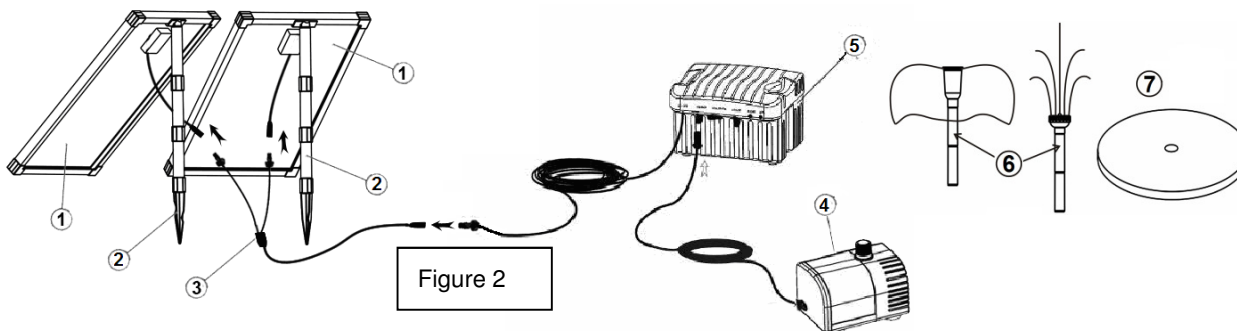

Figure 2
- 3) Connect the two solar panels and the battery back-up through the "Y" connector, as shown in Figure 2 above, and then tighten the connection nut. Install the two solar panels in a sunny place on the ground spikes, adjust the angle to face the solar panels toward the sun.